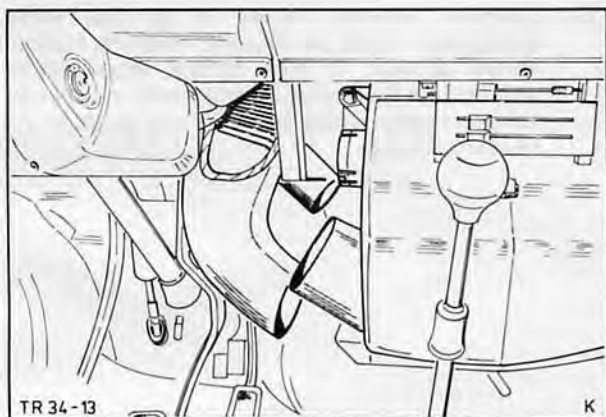

Fig. 14. Disconnect air hoses from heater housing
5. Pull off air hoses (4 off) from heater housing, Fig. 14. Detach bowden cables from heater housing (2 screws) and unhook cables from air flap valve levers.